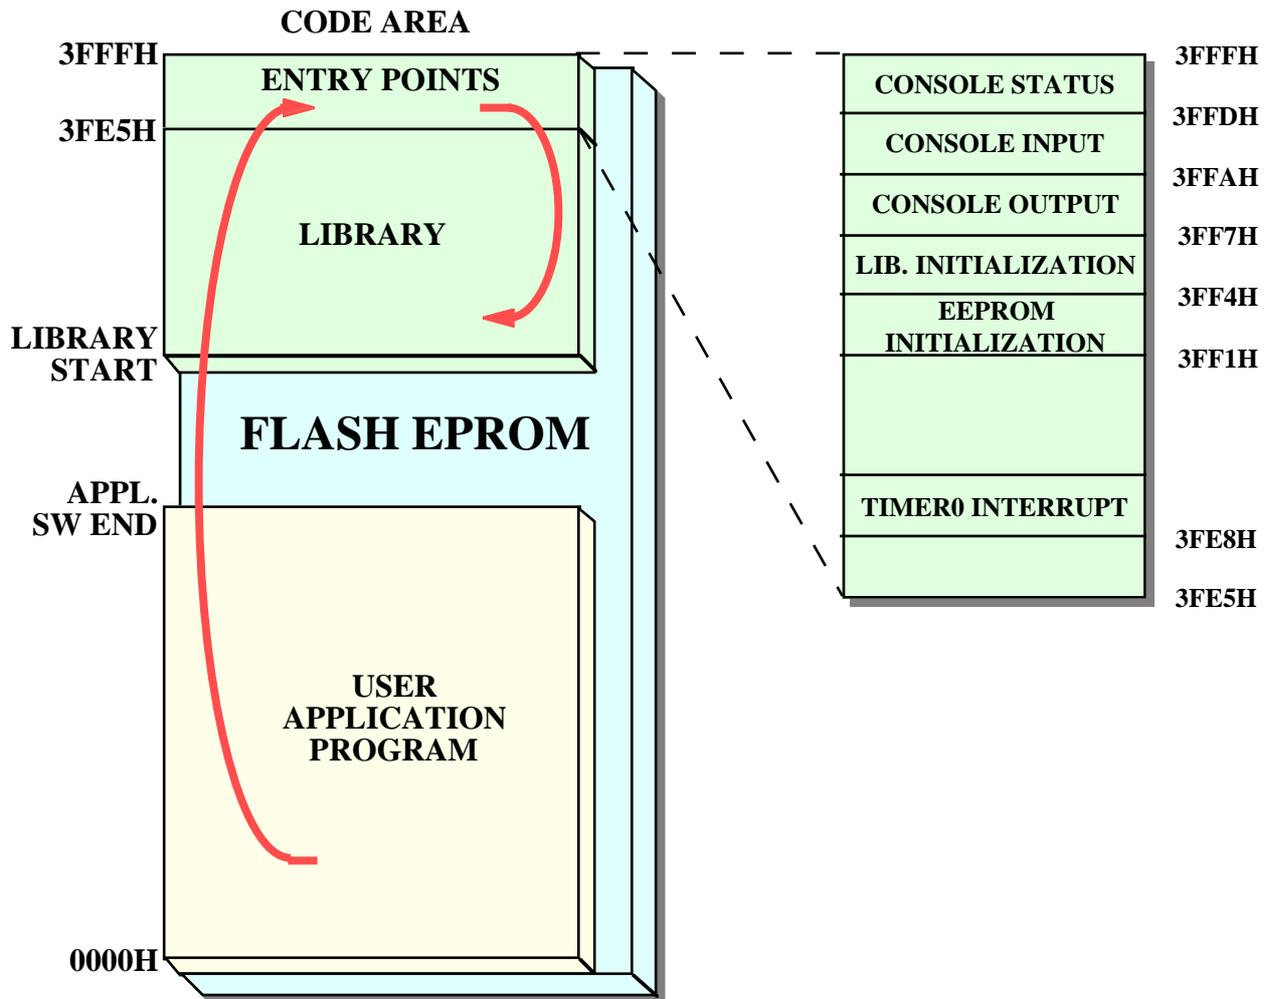

FIGURE 3: CODE AREA ORGANIZATION WITH LIBRARY
- c) Prearrange the software development tool to ensure that the generated application program reserves the hardware resource used by library. As illustrated in figures 3, 4 and in next **RESOURCES USED BY LIBRARY** paragraph, the application program can't use the last area of FLASH, some internal RAM areas, one timer counter, the on board EEPROM, etc.
d) Physically the library coincides with an executable code that must be saved at the end of the code area of microcontroller, as described on figure 3. This code is supplied in QTP16Bxy.HEX file that, thanks to its HEX format, could be directly used for FLASH burning. On this memory, in addition to described library, it must be saved also the executable code of user application program at the beginning of area code to ensure its immediate execution after a power on or a reset. The transit from application program to library is performed through a proper entry points table, located at fixed addresses, that acts as a "link bridge" between the two codes saved in the single code area.
f) Redirect the interrupt service routine for microcontroller **TIMER0** to the corresponding library entry points illustrated in figure 3. The redirections must be performed following the rules of the development tool and normally it coincides with an absolute jump instructions (i.e. **LJMP 3FE8H**) to entry address, placed inside the relative interrupt service routine. Please remind that the **TIMER0** interrupt redirection is absolutely necessary to obtain a complete functionality of the library; in detail it manages all the processes based on time as keyboard scanning, messages shift; time based activation of resources, intermittence, real time clock visualizations, keyclick, clock alarm, etc.
As described in previous paragraphs the library must be saved on the microcontroller FLASH EPROM together with user application program, as illustrated in figure 3. The FLASH management is performed through an ISP technique (In System Programming) that reduces the cost and the time for application development.